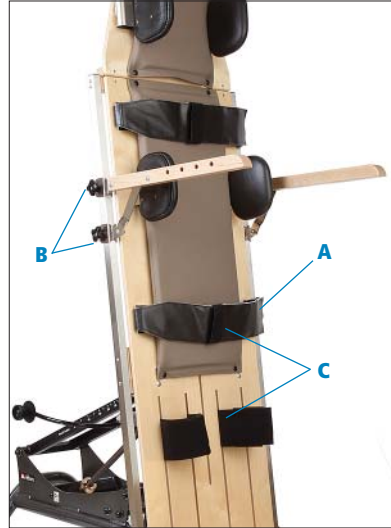

Figure 12a
⚠ WARNING To prevent falls and injury, secure the strap safety closures (C) when in use (see Figure 12a).
To adjust height of armrest, loosen both knobs (B), slide armrest to desired position, and tighten knobs securely. To adjust angle of armrest, loosen the bottom knob only, lift or lower front of armrest to desired position, and tighten knob securely (see Figure 12a).